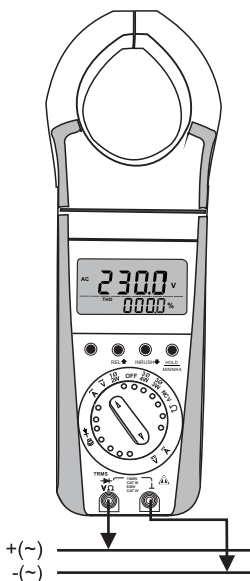

Fig 8.1 Voltage measurement on electrical systems up to 1000V
- ☛ Connect the test leads as shown in fig 8.1. The “⊥” socket should be connected to the lowest potential ground available.